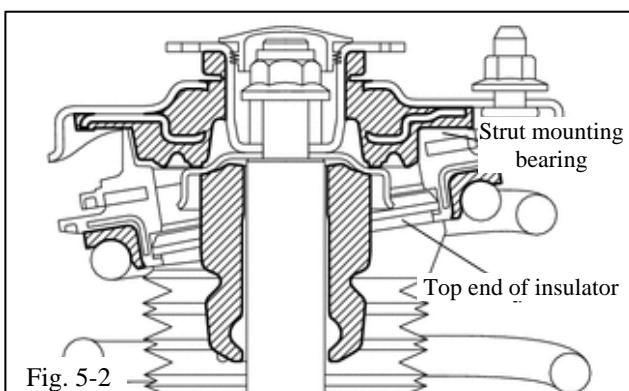

Fig. 5-2
- Install the front spring seat sub-assembly with insulator to the front shock absorber assembly (Fig. 5-2).